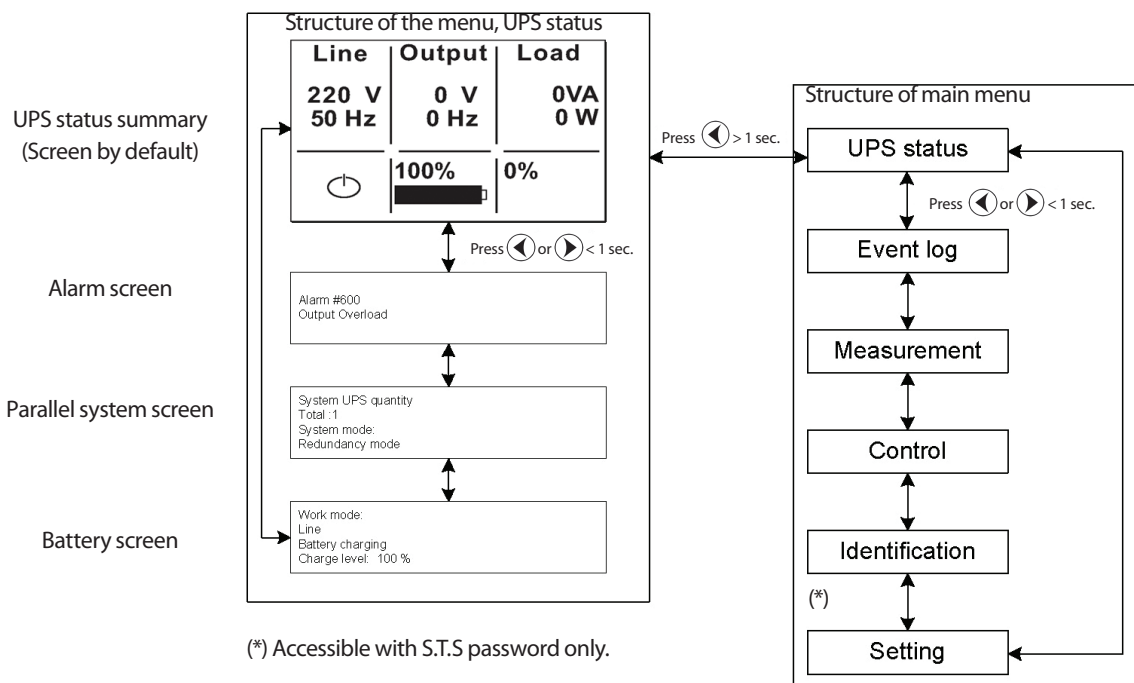

Fig. 33. Main screen structure
- From the same main screen, when pressing the key ▲ for more than 1 sec., the Structure of the main menu will be displayed (see figure 33).